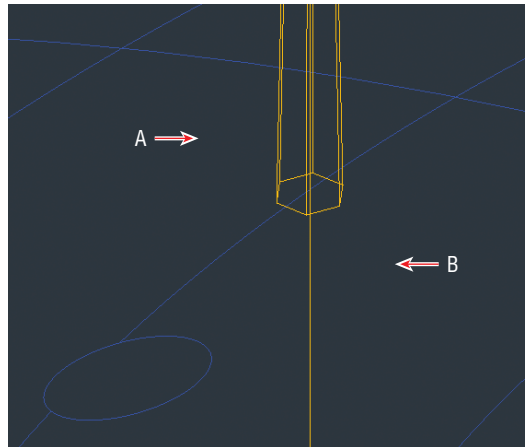

FIGURE 17.19 Joining six edges to form a hexagonal polyline
11. Zoom in on the hexagonal bottom of the mast. Type **J** (for Join), and press Enter. Click points A and B shown in Figure 17.19 to create a crossing window that selects the lines, making a hexagon, and press Enter.